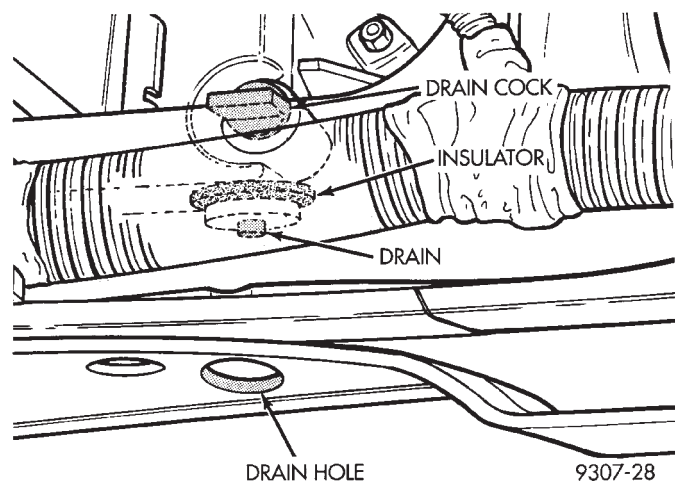

Fig. 14 Radiator Draincock Location
(1) Open radiator drain located at the lower right side of radiator (Fig. 14). Drain takes place through the lower isolator. **Do Not Use pliers to open draincock.**
(2) Remove coolant pressure bottle cap and open the thermostat bleed valve.
(3) Remove the cylinder block drain plug(s) located behind each exhaust manifold.